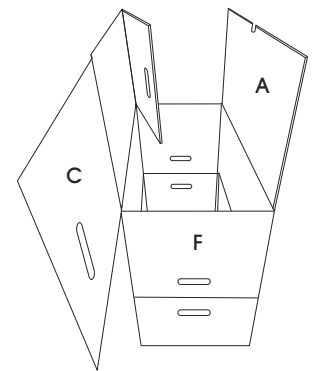

Figure 2
2. Fold box to create a rectangle shape with the certification stamp on the top. (See Figure 2)